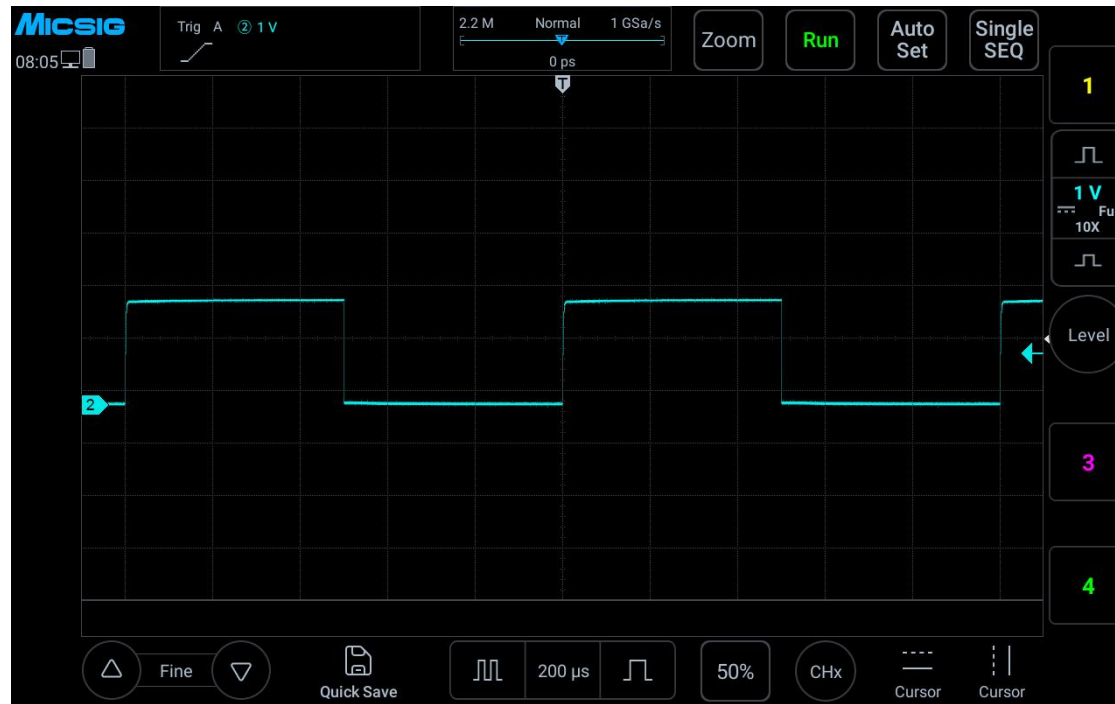

Figure 2-12 Probe Compensation
- 5) Tap button or manually adjust the waveform vertical sensitivity and horizontal time base. Observe the waveform. As shown in Figure 2-12.